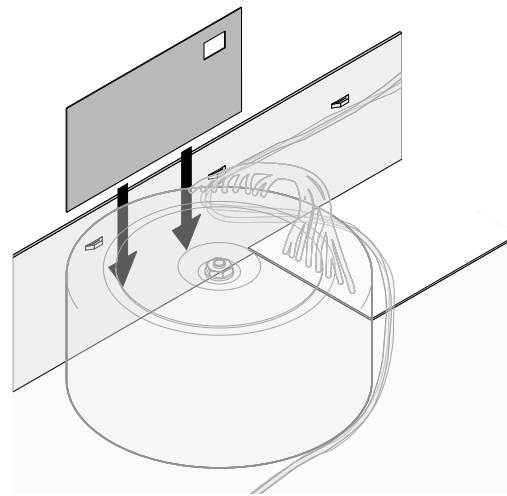

Figure 2. Inserting the insulator board between the chassis and the transformer.
8. Orient the insulator board with its hole up and to the rear. Slide it into the space between the transformer and the bridge lance on the side of the chassis, and between the wires and the chassis (Figure 2). Place the hole in the insulator board over the middle bridge lance.